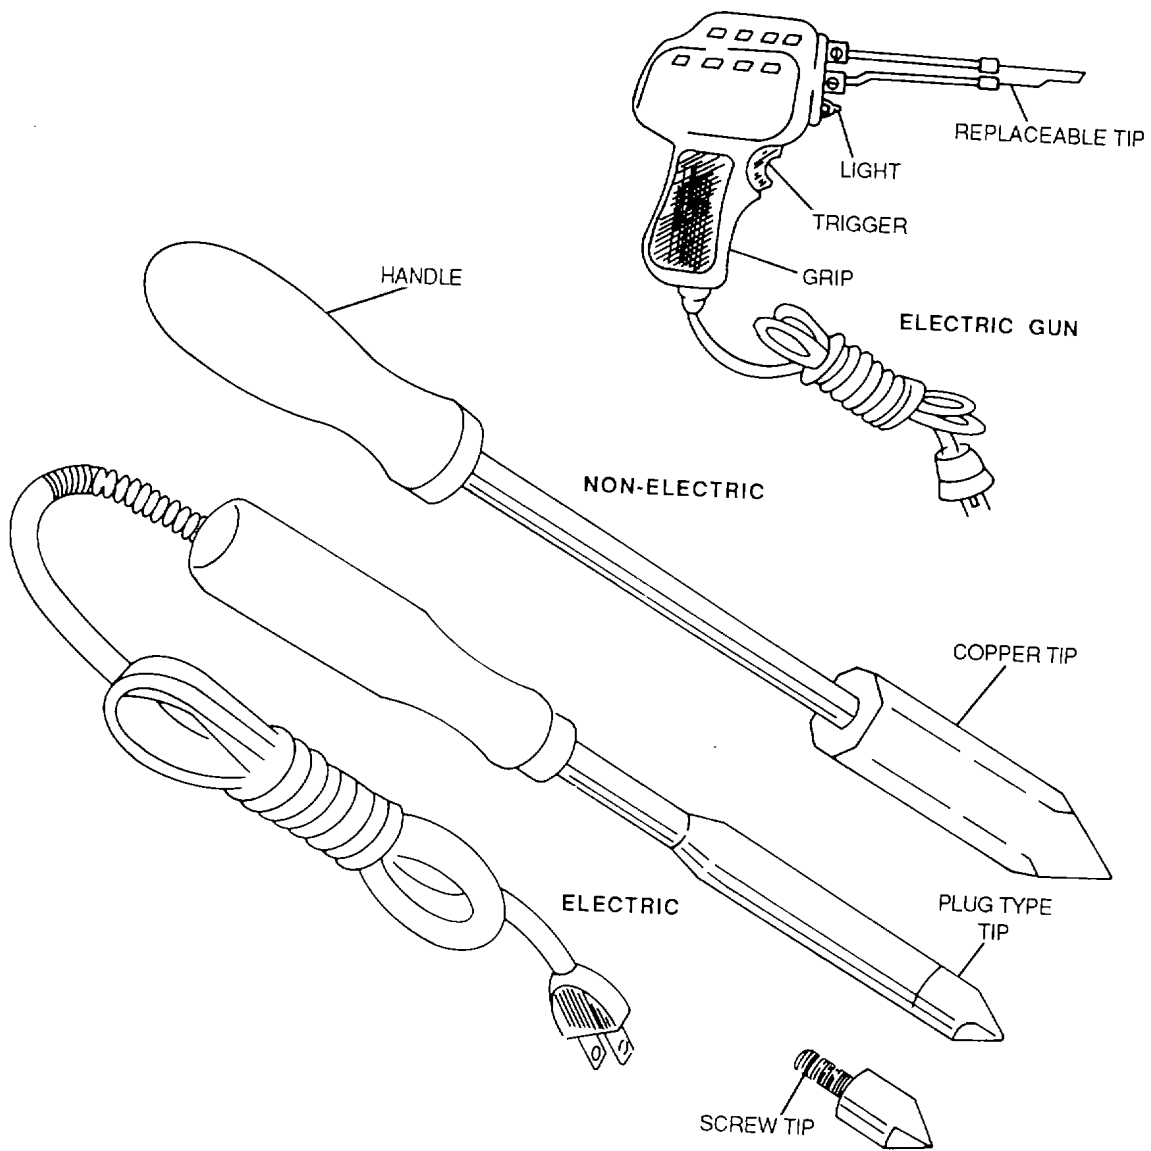

Figure 7-22. Soldering Tools
- (2) Apply a coat of light oil to wrenches to prevent rust.
**7-16. Soldering Tools.** Soldering is a metal-joining process in which a lower melting-point metal (called solder) is heated to the point where it melts and wets the joint surface and then is allowed to solidify in place. These types are shown in figure 7-22.